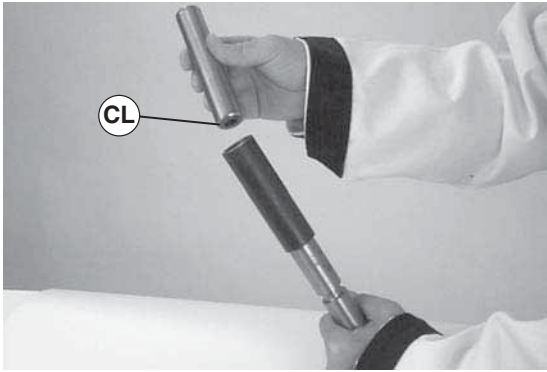

Figure 46
4. Place open end of shaft (Figure 46, item CL) into sleeve.